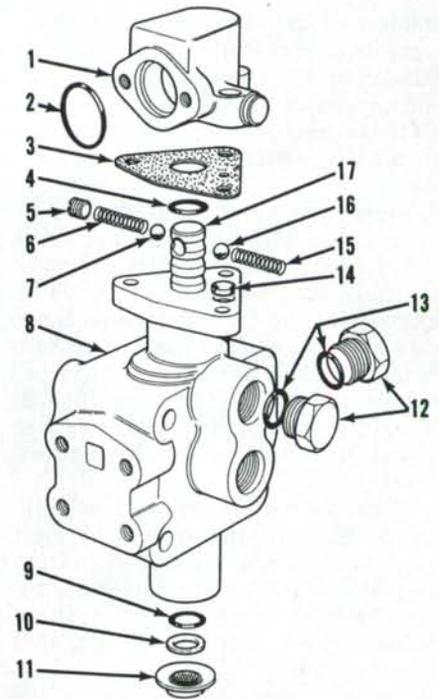

Fig. 271—Exploded view of three-way valve showing component parts and their related positions.
340. The three-way valve (Fig. 271) is mounted on end of rockshaft cylinder and is used to control flow of oil to either rockshaft cylinder or to single acting remote cylinder. The valve control lever can be moved to four different positions: 1, 2, L and L/1.
Valve spool (17—Fig. 271) and body (8) are serviced as a complete unit only. Make certain breather (11) is clean and not damaged. Renew "O" rings and lubricate all parts with hydraulic oil during assembly.